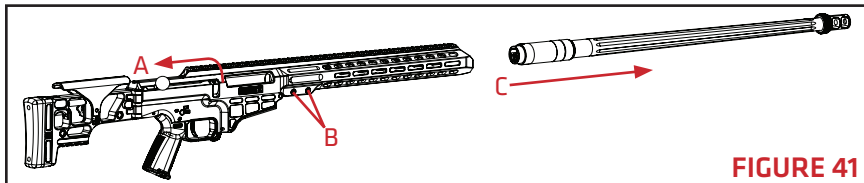

FIGURE 41
CHANGING BARRELS - FIGURE 41
1. Raise the bolt handle and pull to the rear. Ensure the rifle is unloaded and the magazine is removed (**FIGURE 41-A**).
2. Loosen, but do not remove, the two barrel screws using a T-30 Torx Plus wrench (**FIGURE 41-B**).
3. Remove the barrel from the receiver (**FIGURE 41-C**).